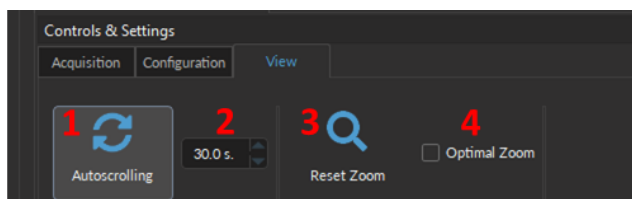

Figure 5.10: View Tab
The **View Tab** (Fig. 5.10) is used to modify the presentation of graphs in the **Acquisition view**.
1. The **Autoscrolling** button (Fig. 5.10, 1), when selected, automatically set the graphs to scroll as new data appears.
2. the **Zoom range** (Fig. 5.10, 2) sets the graph zoom to the value of choice, specified in the text-box.
3. The **Reset Zoom** button (Fig. 5.10, 3) readjusts the graph zoom to the value specified in the zoom range text-box.
4. The **Optimal Zoom** check-box (Fig. 5.10, 4) automatically adjusts the graph range based on the values of the data collected. Smaller values will lead to greater zoom, and vice versa.